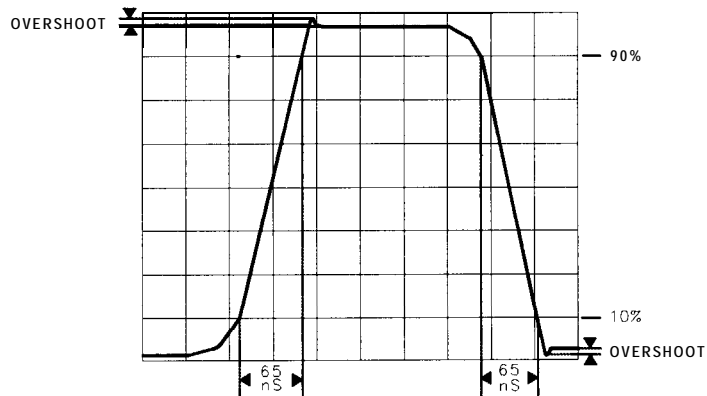

Figure 3-28. Rise and Fall Times and Overshoot Adjustment Waveform
- Use the oscilloscope ($\Delta t \Delta V$) markers to measure the risetime, falltime, and percent overshoot of the composite X deflection waveform. Rise and fall times should both be less than approximately 65 ns between the 10% and 90% points on the waveform. Overshoot should be less than 3% (approximately 0.25 divisions). See Figure 3-28.